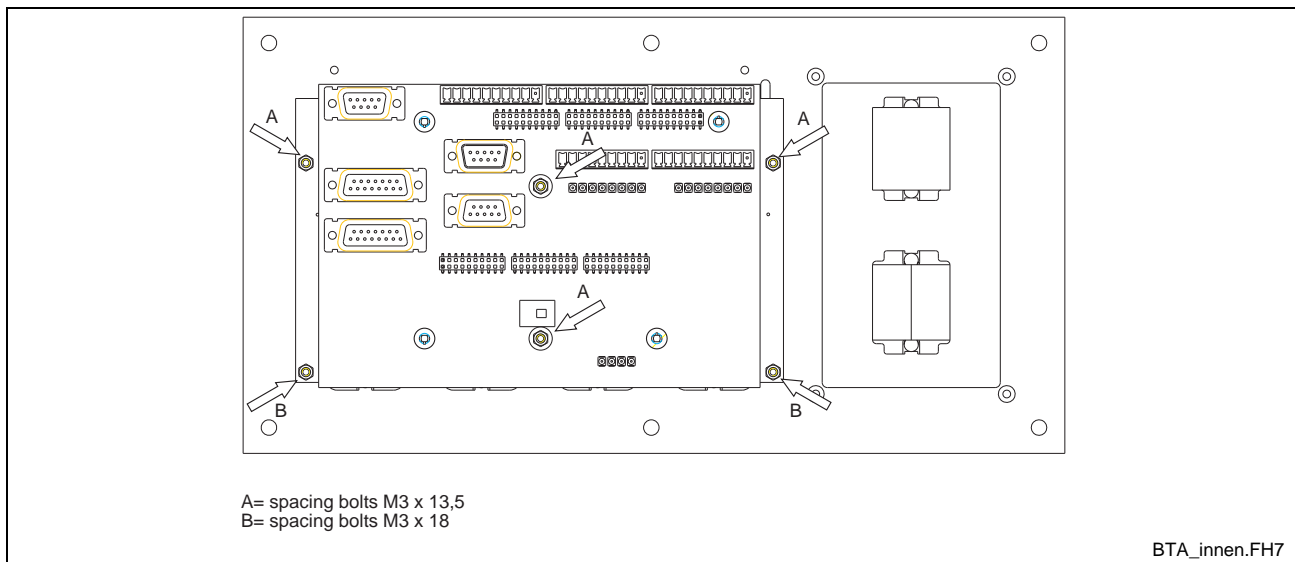

Fig. 4-2: Location of the spacing bolts
- a) Use a 5.5-mm socket wrench to loosen the six spacing bolts A and B (see Fig. 4-2).